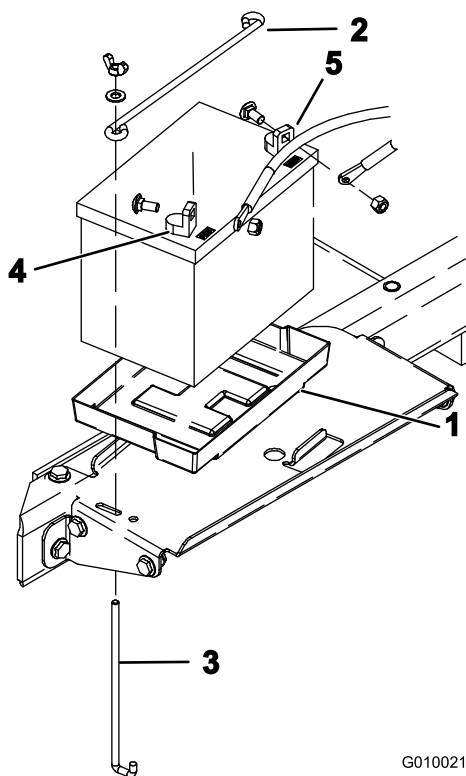

Figure 6
8. Insert the battery into the tray in the battery compartment (Figure 6) Position the battery so the terminals are to the outside.
9. Secure the battery to the compartment base with a battery rod, 2 hold down rods, 2 flat washers, and 2 wing nuts (Figure 6).
10. First, secure the positive cable (red) to the positive (+) battery terminal with a carriage bolt and nut (Figure 6), then the negative cable (black) to the negative (-) terminal of the battery with a carriage bolt and nut (Figure 6). Slide the rubber boot over the positive terminal to prevent a possible short from occurring.